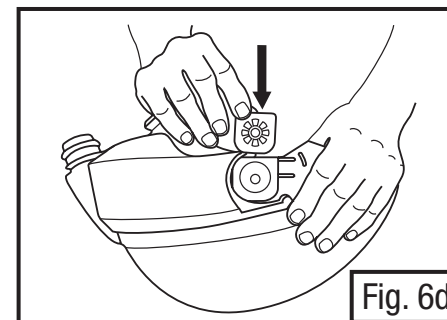

Fig. 6d
- Install back plate into the headgear shell. When installing the “wind mill” pattern should be facing outwards and the “M-960” marking will be located on the bottom of the plate. Install rounded edge first and slide completely into the slot (Fig. 6d). Gently push down on back plate to ensure it is flush to bottom of slot.